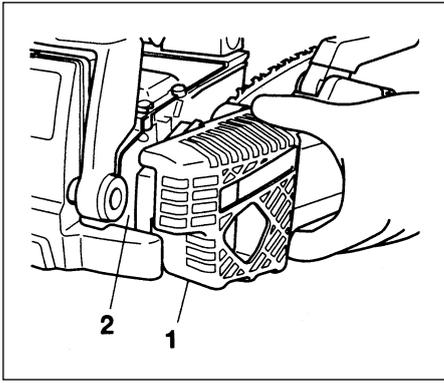

Fig.1-1
1. Remove chain bar clamp nuts (3).
2. Remove the side case (1) as pinching the rear part of the side case (1) .(Fig. 1-1)
6. Install the side case (1) onto the guide bar clamp bolts after inserting it on the alignment/locking tab on the engine case (2). (Fig. 1-1)